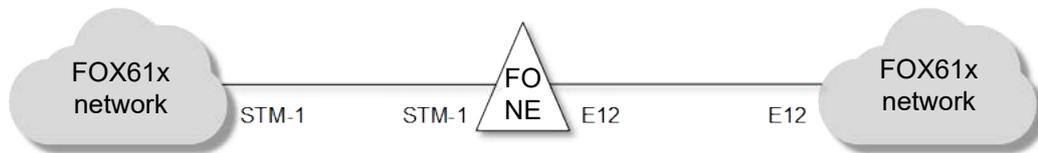

Figure 94: Passing one NE of type FO
- A single NE of type FO is used to represent the whole third party network as shown in Figure 94: